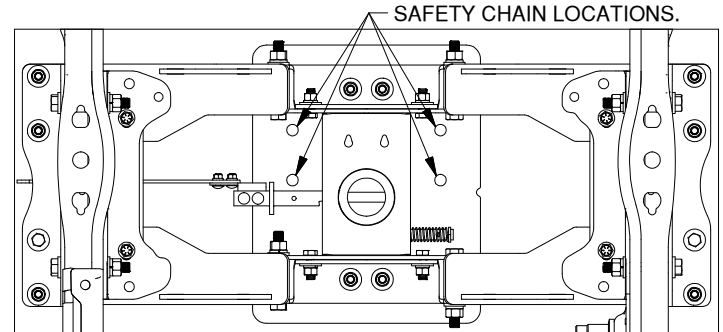

Figure G1: View looking up at hitch installation.
1. **Drill holes.** From under the bed, using a drill and small drill bit, drill a pilot hole into each of the safety chain locations, shown in Figure G1. The pilot will have to drill through the the bed stiffener and the bed. From the top of the bed, drill each hole with a 11/16" drill bit. Drill the holes perpendicular to the surface of the bed. It is possible to drill the holes from under the bed if necessary.